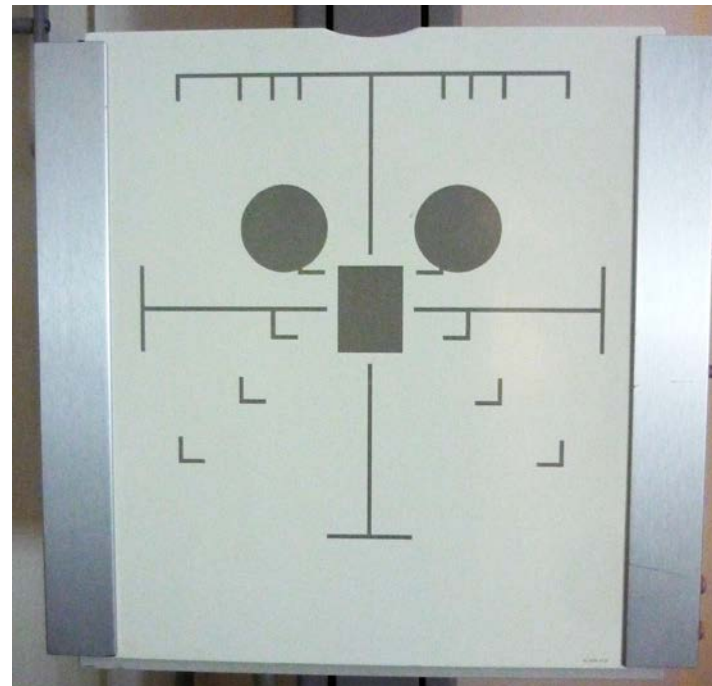

Fig. 23 – Three cells of the automatic exposure control system.
- Most of AEC systems consist of three or five radiation-measuring sensors, two lateral and one central, as shown in Fig. 23.